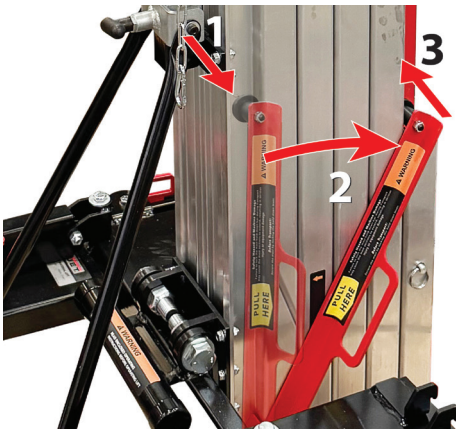

Figure 4-1: Engaging Mast Locking Arm
3. Engage the mast locking arm. To do so, pull arm outward from its position at the rear of the mast. Rotate the arm forward and release when the rubber wheel is over the fork carriage. See Figure 4-1.